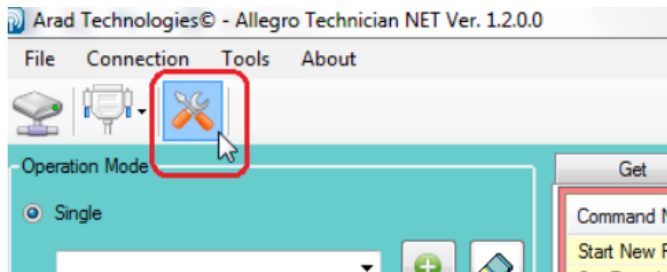

Figure 11
The new frequency will be according to destination base station frequency. The below example (see figure 11) shows how to change repeater frequencies for a specific city, in this case City of XYZ.
- Click on the **“Settings”** icon (see figure 11).